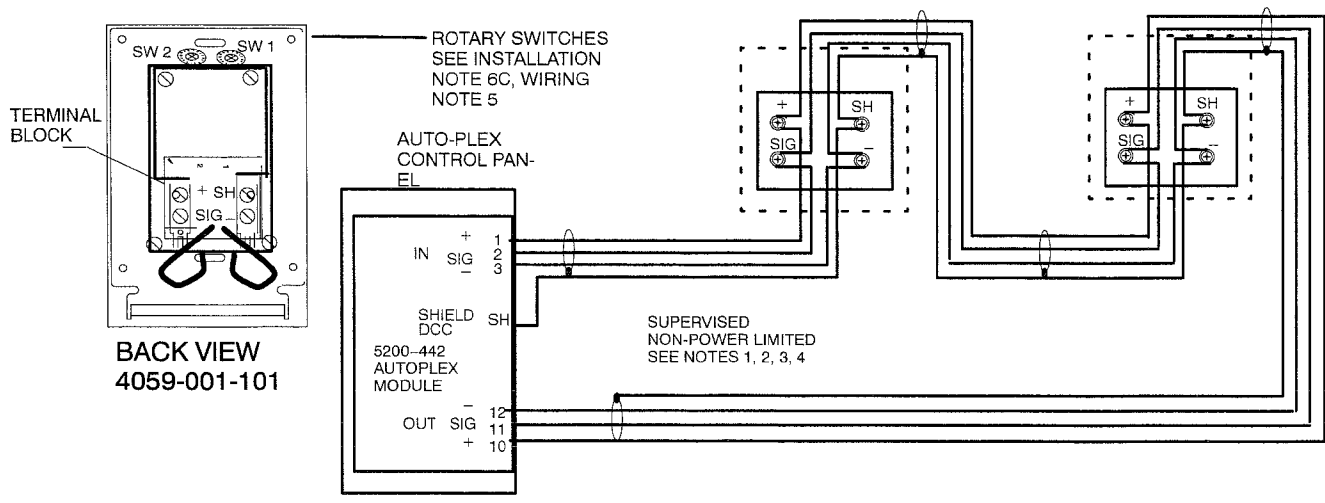

Figure 5. 4059-001-101 Application to AutoPlex Control Panel.
**WIRING NOTES—4059-001-101 AutoPlex Control Panel Application—Figure 5**